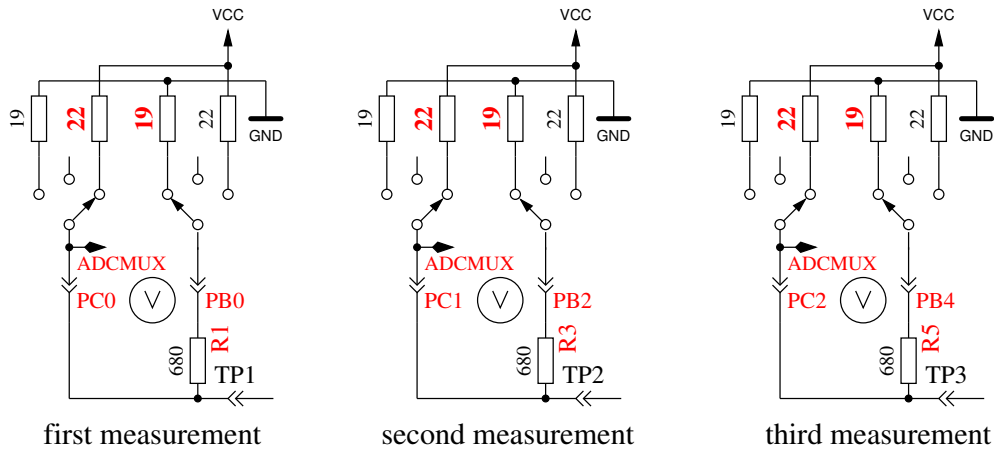

Figure 4.25: Measurement of internal resistance of Port C switched to VCC
8. Measuring of internal resistance of port outputs switched to the VCC (+) signal. The needed current is generated with to GND connected 680Ω resistors. The text in the 1st LCD row is Ri.Hi= (mV). In the second row of the LCD three voltages are displayed (in difference to VCC). It are the same measurements as those in test 7 to the other side as you can see in Figure 4.25. With the following steps you can get the resistance: To get the current build: $(5001 - (resultoftest7) - (resultoftest8))/680$. Then you can get both resistor values by dividing the voltage (result of test 7 or 8) by this current.